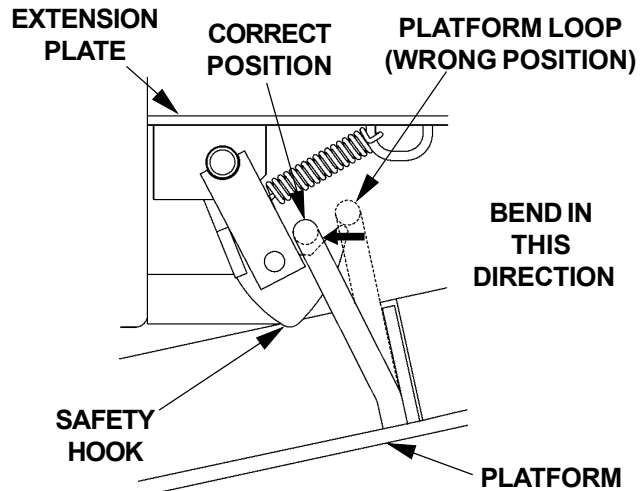

FIG. 16-1
2. When the Liftgate is stowed, see if **Platform Loop** is positioned above the **Safety Hook** as shown in **FIG. 16-1**.
2. Adjust by bending the Platform Loop as shown in **FIG. 16-1**.